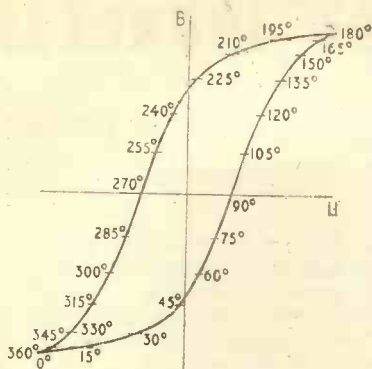

Fig. 2. Hysteresis curve as in Fig. 1, marked with phases of a sinusoidal applied e.m.f.
Fig. 3. Diagram of Fig. 2 turned through a right angle for conveniently drawing a H/θ curve, which has the same waveform as the current, i. The e.m.f. e is shown for comparison.
Next, we want to find the values of B corresponding to sufficient other phases in the voltage cycle. I suggest every 15° . The numbers by which to multiply B_{max} are $-\cos 0^\circ (= -1)$, $-\cos 15^\circ$ (-0.966), etc. Fig. 2 shows the diagram at this stage.
where l is the length of the core (again, assumed to have constant cross-section). Current being directly proportional to H, we can plot its curve from Fig. 2 and use equation (3) if we want to provide it with a scale in amps. The easiest way of transferring the plots is to turn Fig. 2 on its side, as in Fig. 3. A sine wave is plotted too, to represent e for comparison. The shape of the i curve will be familiar to anyone who has used an oscilloscope on iron-cored coils. But we can take a more intelligent interest in it by tracing its generation as suggested.